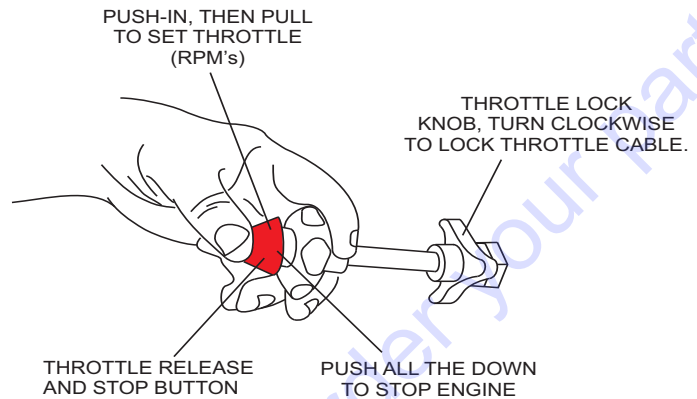

Figure 37. Throttle Control Knob (Mixer)
3. **PUSH** the "RED" button (Figure 37) on the throttle control and pull the round black knob about halfway out. Make sure that the throttle lock knob has been dis-engaged.